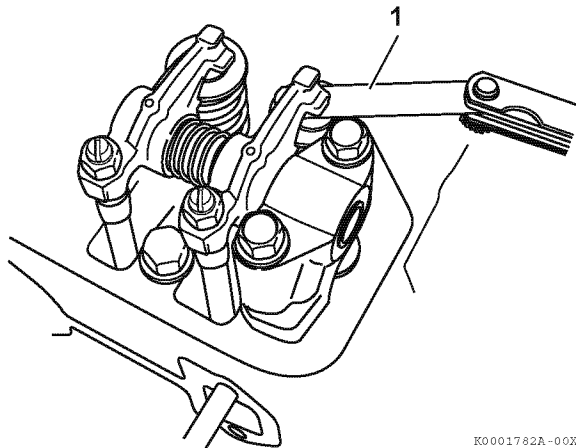
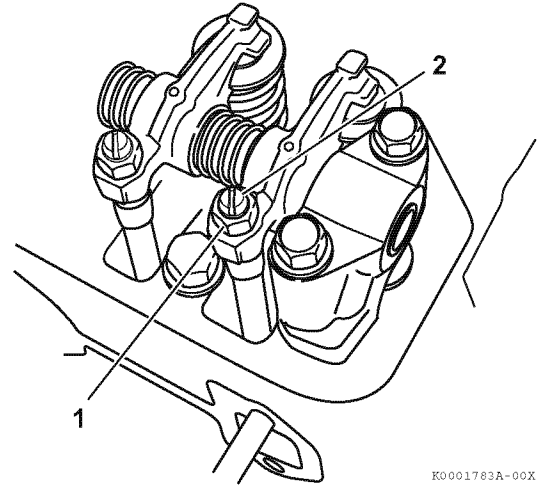

Figure 6-35
Figure 6-36
3. Insert a feeler gauge (**Figure 6-35, (1)**) between rocker arm and valve cap and record the measured valve clearance. (Use the data for estimating wear.)
6. Insert a feeler gauge of the correct thickness (**Figure 6-35, (1)**) between rocker arm and valve cap. Turn the valve adjustment screw to adjust the valve clearance so there is a slight “drag” on the feeler gauge when sliding it between the rocker arm and valve cap. Hold the adjusting screw while tightening the valve adjusting screw locknut (**Figure 6-36, (1)**). Recheck the clearance (*see Adjustment Specifications on page 6-3*).
5. Loosen the valve adjusting screw locknut (**Figure 6-36, (1)**) and valve adjusting screw (**Figure 6-36, (2)**) on the rocker arm. Check the valve for inclination of the valve cap, entrance of dirt or wear.